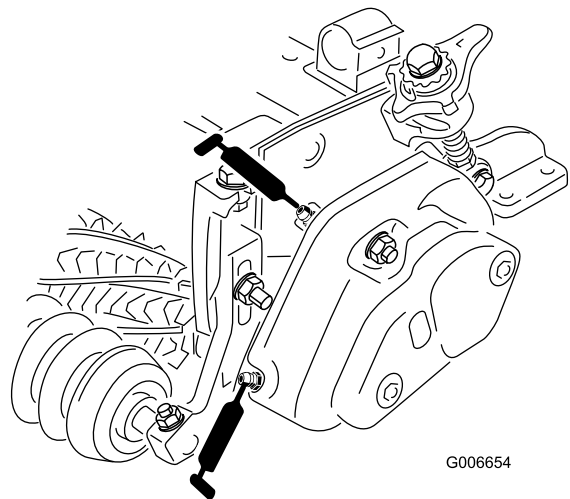

Figure 14
25. Fill each reel bearing housing with grease (Figure 14). Excess grease will purge between the inboard seals and the seal guards.
26. Grease each of the groomer bearings (2 or 3 pumps maximum) (Figure 14). Do not over-grease as excess grease may cause seal failure. Wipe off any excess grease.